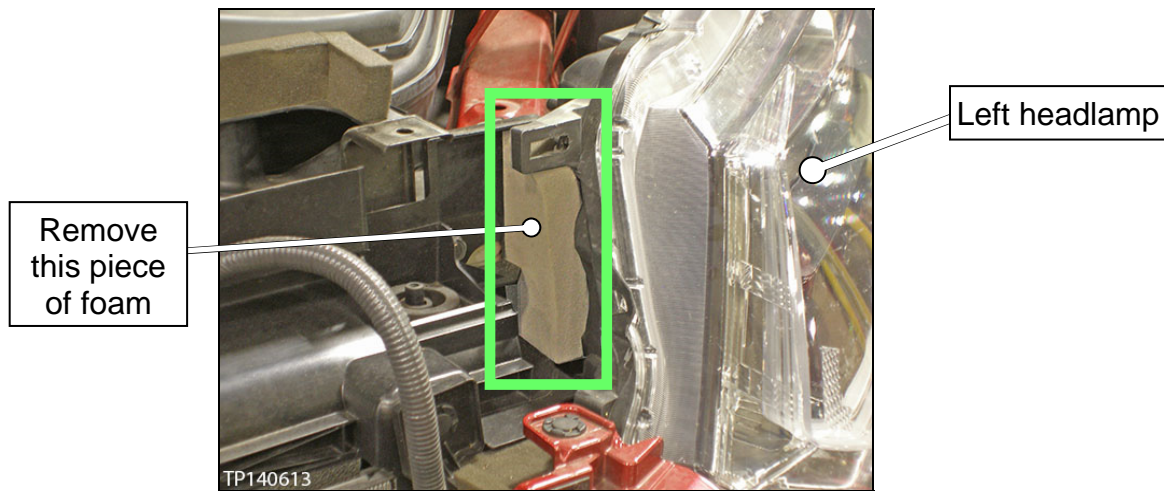

Figure 6
11. If a piece of foam is present where shown in Figure 6, remove it.